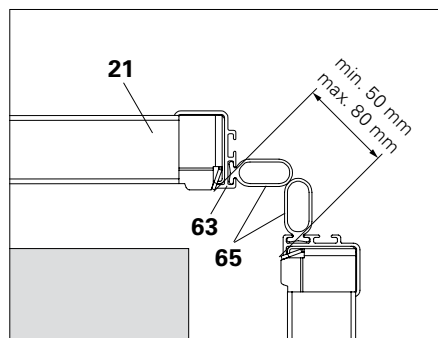

Fig. C2.12d
Mount Draw-In Profile LPS 20/55 (65) on the inside on both sides. (Fig. C2.12d)